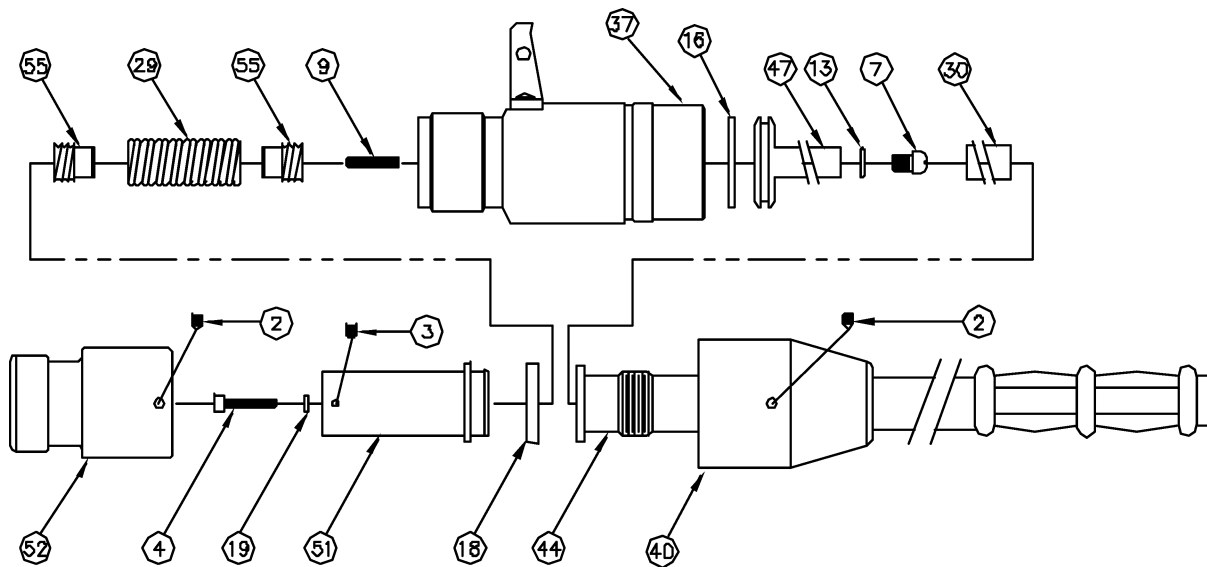

FIGURE 7
3. Hold the tool with the crimping head down on a clean surface and remove set screw 2 (see Figure 7), and unscrew cover 40 along with the handle assembly.
REMOVAL OF RAM LIP SEAL: (SEE FIGURE 7)
2. Pump the tool handle several strokes to expose screw 3 located in ram 51 (see Figure 7). Fully remove screw 3 and withdraw swivel 14 and slide 4 (see Figure 5).
CAUTION: AFTER REMOVING SLIDE ASSEMBLY, FULLY RETRACT RAM 51 (SEE FIGURE 7).